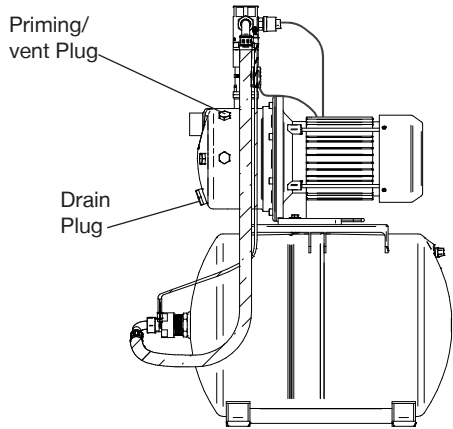

Fig. 7
- 5.13 **Priming:** Prior to switching the pump on and connecting the outlet hoses to the system pipework the pump chamber must be primed. The pump must be primed (filled with water) before starting. Turn on water supply, prime and vent the pump by unscrewing the priming plug (Fig. 7) slowly until all air escapes and water emerges. Re-tighten the plug.